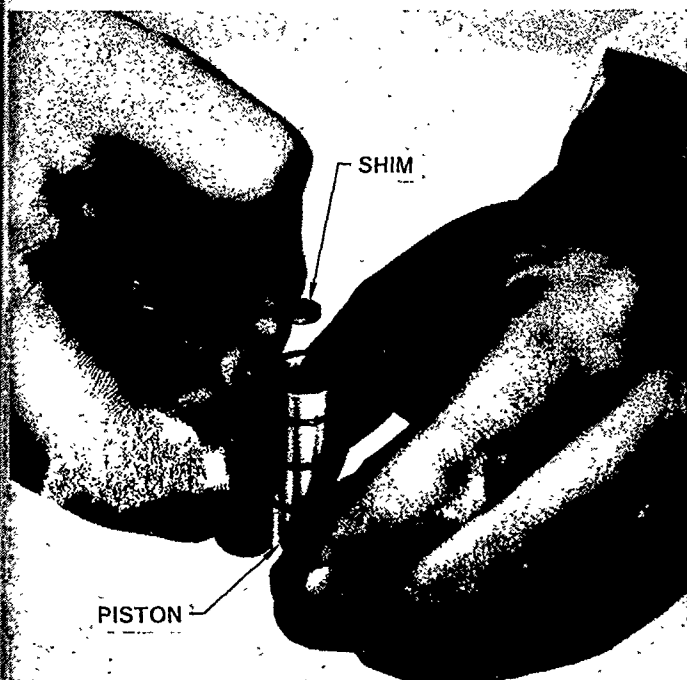

Figure 10
1. Install the shims into the valve piston, Figure 10.